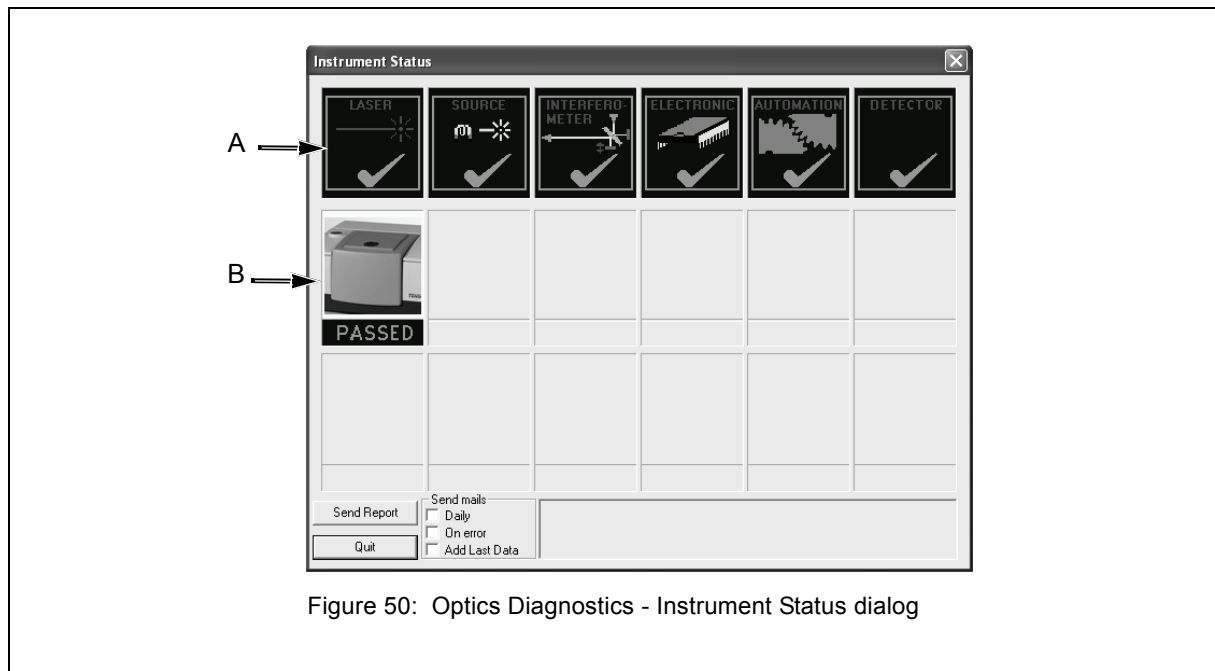

Figure 50: Optics Diagnostics - Instrument Status dialog
- OPUS dialog window *Instrument Status* (See fig. 50.)